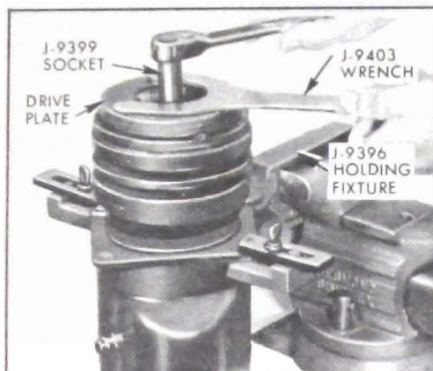

Figure 11-95—Removing Shaft Nut
1. Hold the clutch drive plate hub with J-9403 wrench and use J-9399 special thin wall 9/16" socket to remove shaft nut. See Figure 11-95.